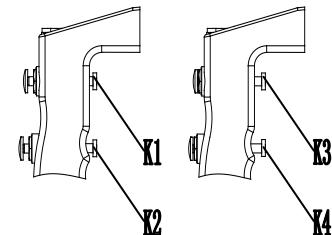

Fig 5
Tread the inflation pedal (V5), The inflation hose (B) sprays high pressure gas, Release the pedal to stop inflation, The operation of locking handle(K) is shown as Fig 5